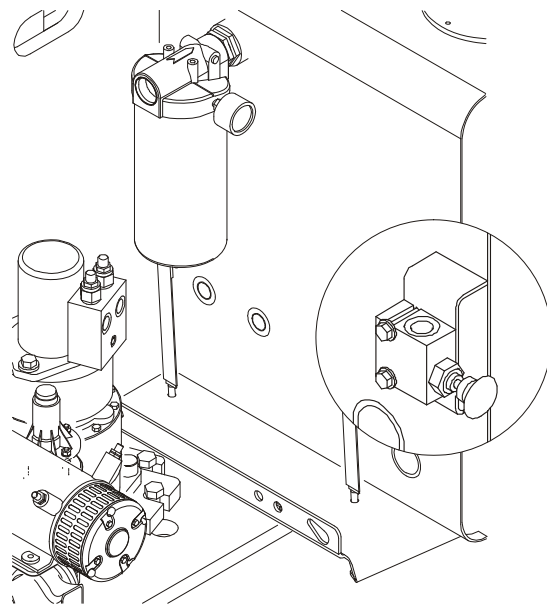

Figure 4-7. Releveling Valve
3. Pull and hold the red relevel knob located next to the main control valve. Refer to Figure 4-7.